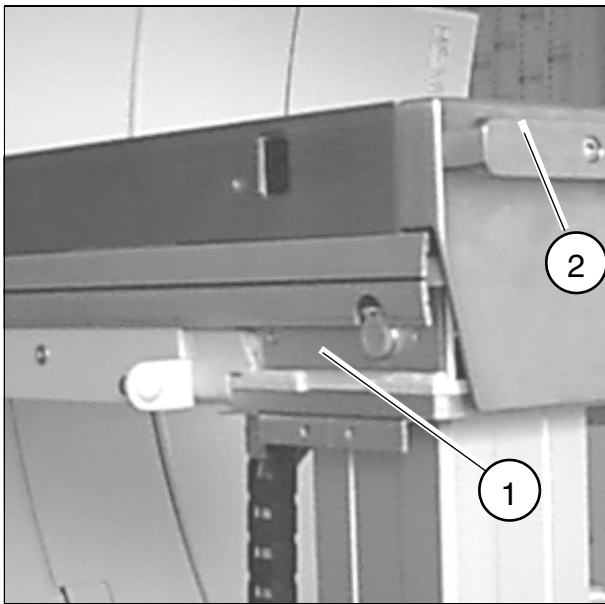

Fig. 1
- Remove the screws from the mounting plate for the tableside control panel jack (1/Fig. 1) on the left, so that the mounting holes for board D27 located underneath are accessible.
- Remove the collimator including the mounting rail (2/Fig.1).